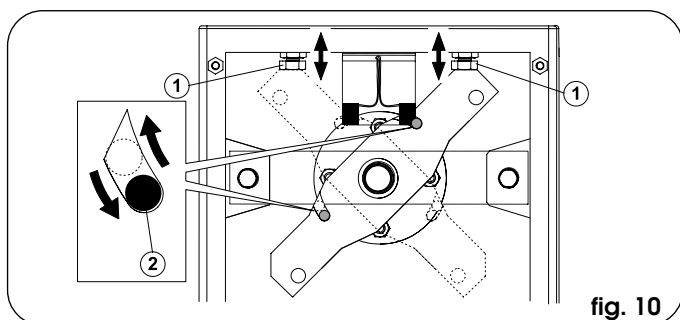

fig. 10
Adjust the position of the beam to maximum closing and opening positions, using the stroke limit mechanical stops as shown in fig. 10 ref. 1.
The point where the automated system begins to make the slow-down movement can be modified, by moving the magnetic cylinder inside the seat located on the two arms of the equaliser in the motion unit (Fig.10 - ref.2).